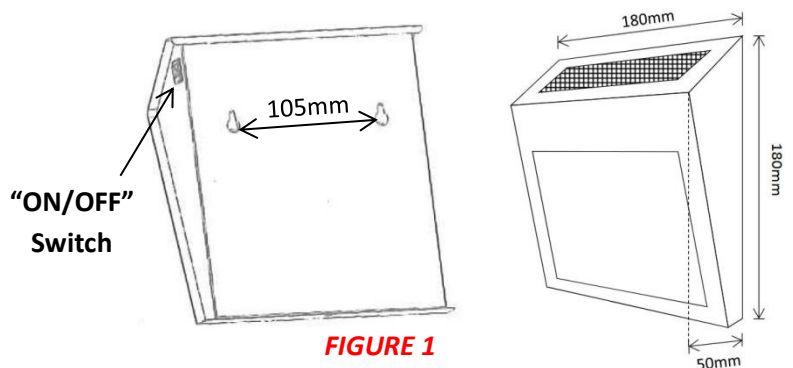

FIGURE 1
2. Locate the **"ON/OFF"** switch and turn light on by setting the (**I,O**) switch on the side of your fitting to (**I**) (**FIGURE 1**)
Step 2. Drill 2 holes of 8mm diameter in the wall 154mm apart from one another (**FIGURE 1**)